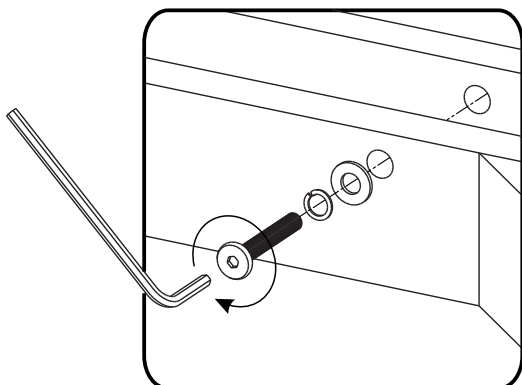

Figure 3
Attach Back Frame (F) to unit with Flat Washers, Spring Washers, Head Cap Bolts (short) and Head Cap Bolts (long), tightening bolts only halfway. (See Figures 3 and 4)